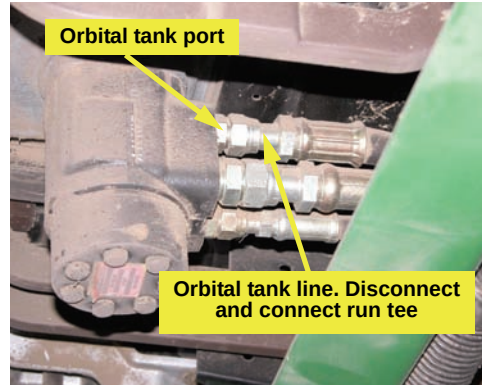
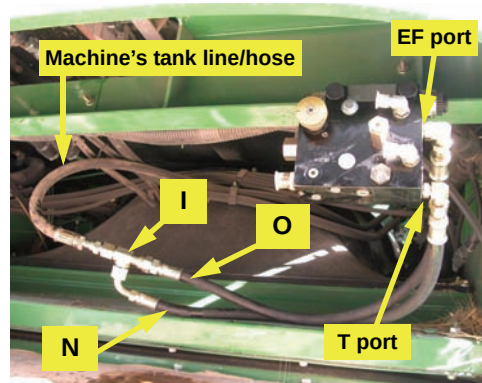

Figure 3: Tank line at orbital (run tee not shown)
Figure 4b: Installed tank and excess flow hoses - steering block to run tee (and tank line)
The hydraulic control block will receive pressure from the tank port at the combine's steering orbital. Excess flow and tank flow from the hydraulic control block will be returned to the tank line disconnected from the steering orbital (Figure 3).
Remove the tank line from the steering orbital and install the run tee fitting **I** to the end of the hose (Figure 3 - run tee not shown, and Figure 4b).
- b. Install the tank hose **N** between the fitting in the **T** port of the hydraulic steering block and the branch of the run tee you connected to the orbital tank hose in step 3 (Figure 4b).
- c. Install the excess flow hose **O** between the fitting in the **EF** port of the hydraulic steering block and the open end of the run tee you connected to the orbital tank hose in step 3 (Figure 4b).